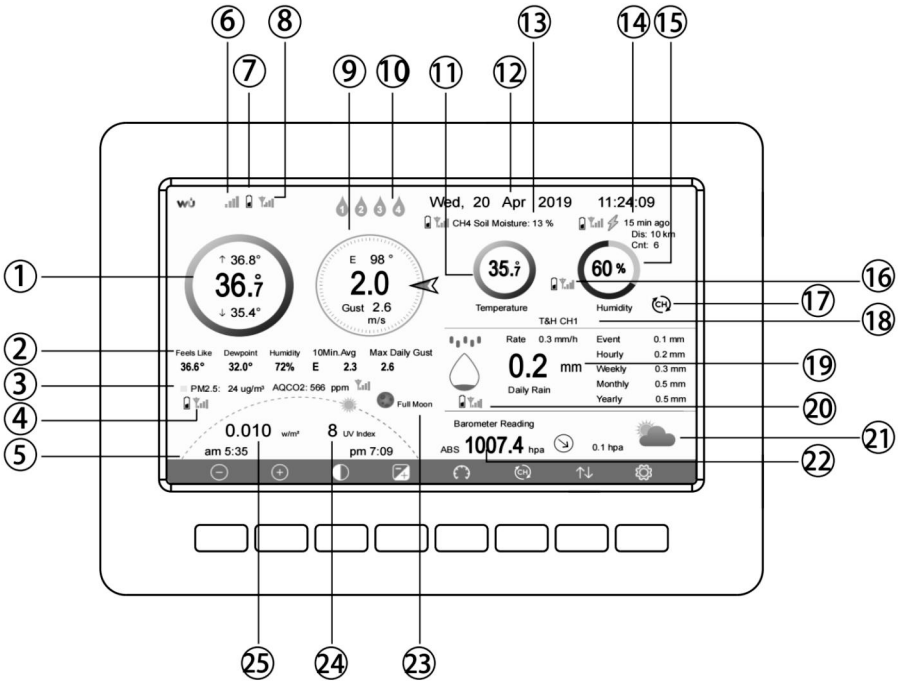

Figure 20: Display Console Screen Layout
- Hang the remote sensor using a string, as shown in right side of Figure 20
See Figure 20 to help you identify elements of the console’s display screen.